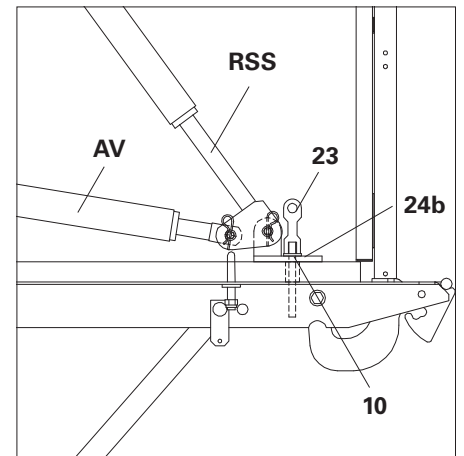

Fig. B2.03b
1. Bolt Base Plate for RSS (24b) in the rear Multi-Purpose Connector (10) with Push-Pull Prop Bolts FB (23).
2. Secure Push-Pull Prop RSS and Kicker AV with bolt and cotter pin. (Fig. B2.03b)